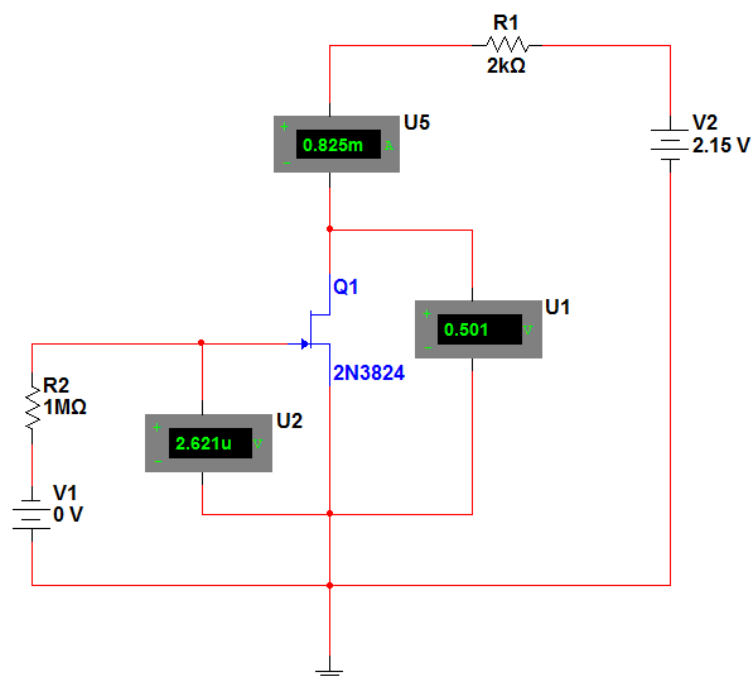

Figure 9.4 JFET (2N3824) circuit
- 1) Construct the circuit provided in Fig 9.4 and use the n-channel JFET 2N3824 in Multisim and 2N3819 in lab.